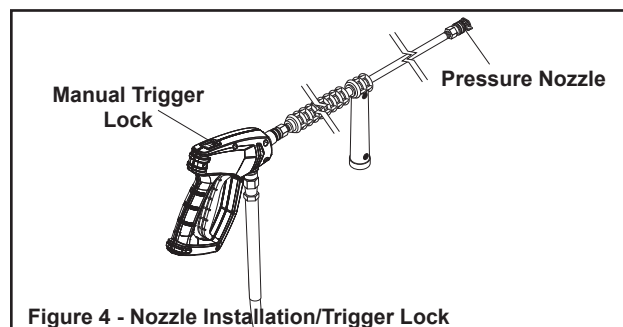

Figure 4 - Nozzle Installation/Trigger Lock
1. Install the proper pressure nozzle for your cleaning needs on the end of the wand. Refer to Figure 4.